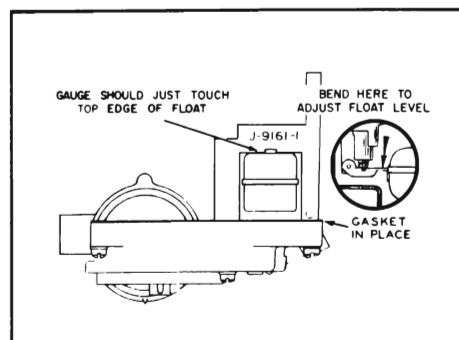

Figure 3-33—Float Level Adjustment
12. Adjust Float Level. With air horn assembly inverted, position Float Level Gauge (1-17/64") of Gauge Set J-9161-01 (V-8 engine) or J-9586 (V-6 engine) over float so it rests against pump side of power piston shaft, with outer leg in line with center of float. Bend float arm as required to adjust float level. See Figure 3-33.